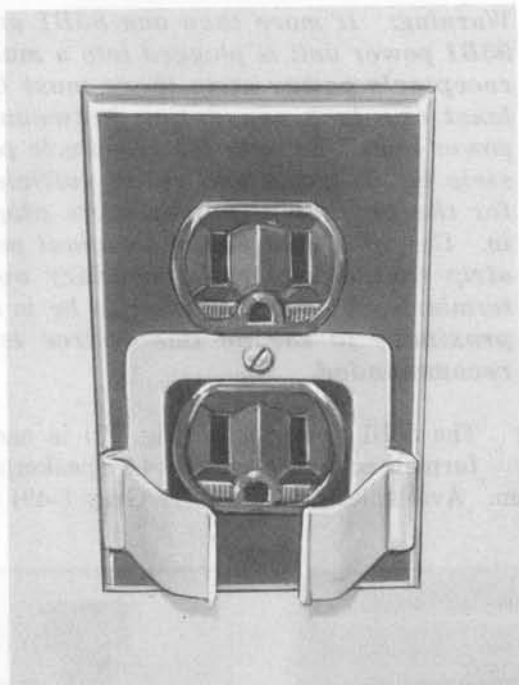

Fig. 20—841050818 Retaining Clamp Mounted on AC Outlet Box Using Outlet Cover Mounting Screw
12.02 The ac input to the unit is by means of two parallel blades for use in a standard two wire receptacle which serves as the mounting device. A retaining clamp (841050818) is furnished with the 85B1 power unit, see Fig. 20. The ac output is available through screw terminals recessed in the plastic case.
**Danger:** For safety, securely attach retaining clamp to ac outlet using outlet cover screw **BEFORE** attempting to install 85B1 power unit. See Fig. 20. When removing 85B1 power unit, always unplug the power unit completely from the outlet
**13.02** The ac input to the unit is by means of two parallel blades for use in a standard two wire receptacle which serves as the mounting device. A retaining clamp (841050818) is furnished with the 95B1 power unit, see Fig. 20. The ac output is available through screw terminals recessed in the plastic case.
**Danger:** For safety, securely attach retaining clamp to ac outlet using outlet cover screw **BEFORE** attempting to install 95B1 power unit. See Fig. 20. When removing 95B1 power unit, always unplug the power unit completely from the outlet **BEFORE** attempting to remove the retaining clamp. This will prevent the possibility of a loosened retainer clamp or metallic outlet cover making contact with the ac prongs of the 95B1 power unit when partially withdrawn from outlet. Do not use an 841050818 or similar retaining clamps on outlets where the cover mounting screw holds the duplex outlet in the box.